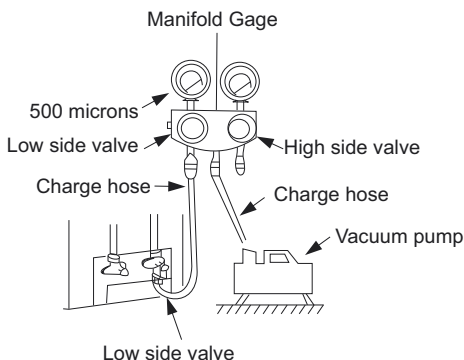

Figure 22 – Manifold
- (3.) Fully open the low side of manifold gage. (See Fig. 22)